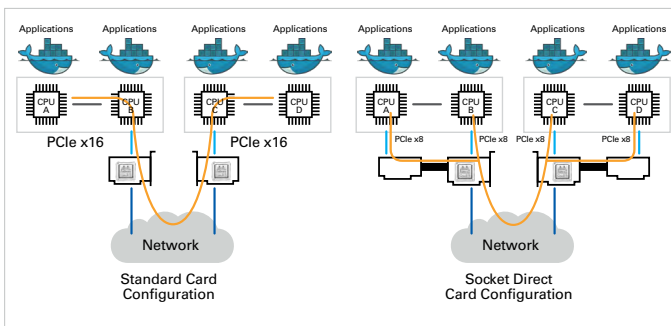

Figure 4. Standard Card Configuration versus Socket Direct Card Configuration (tests setup)
Figure 4 shows the two network configurations, side by side.
The diagram in Figure 4 (left) shows a basic network of dual-socket servers, on which a single network card is installed. The gold line shows a flow path of data packets running between the servers, across the network. The flow path contains multiple data processing nodes (CPU-A, CPU-B, CPU-C and CPU-D). Traffic can pass between any two nodes on the flow path.
The diagram in Figure 4 (right) shows that CPU-A and CPU-D now have direct paths to the network controller, bypassing the inter-processor buses.
**Test1** - Local CPU (Figure 4, left): Path started from CPU-B and ended in CPU-C.
**Test2** - Remote CPU (Figure 4, left): Path started in CPU-A, went through the inter-processor bus to CPU-B, via the network to CPU-C and again through the inter-processor bus onward to CPU-D.
**Test3** - Socket Direct (Figure 4, right): Path goes from both CPU-A and CPU-B through the network to CPU-C and CPU-D on the other server.